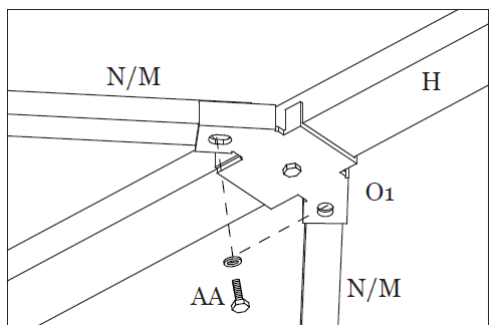

Figure 12-3
Step 12C: Attach the Main Roof Horizontal Supports (M and N) to the Main Roof Connectors (O1) using Bolts (AA). See Figure 12-3.